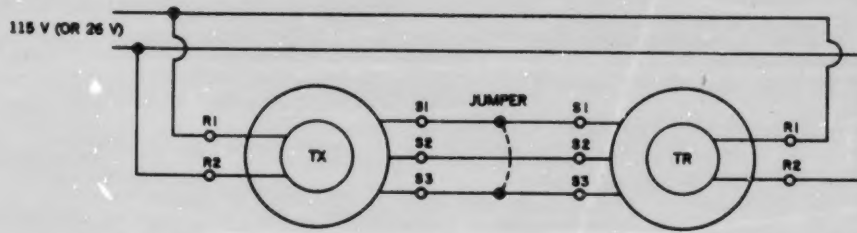

Figure 7-33. — Zeroing a TX by using a TR.
1. Connect the receiver or synchro tester to the transmitter as shown in figure 7-33.